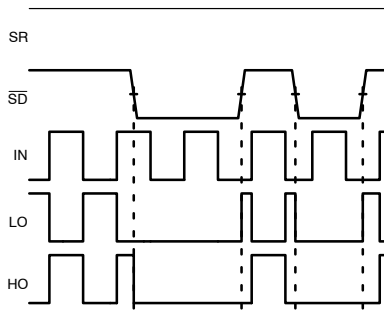

Figure 37. Shutdown with SR Pin Pulled Down SR Pin Pulled Up
11. Turn-off propagation applies to $\overline{SD}$ pin. See Figure 37 for timing definitions.
Refer to Figure 37.